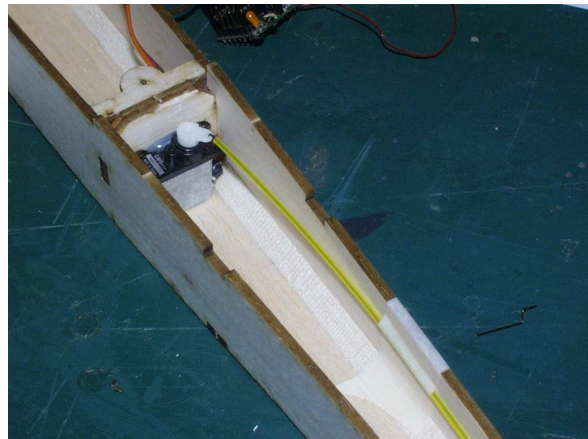

Figure 4.11: Control guide installed
- Install cable guide and an ample length of control wire to extend all the way to beyond the underside of the tail former. (Figure 4.11)